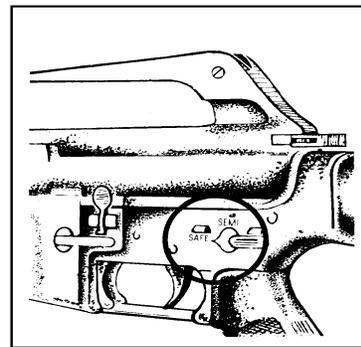

Figure 10-1. Selector Lever On Safe
- c. Turn the selector to SAFE (figure 10-1).